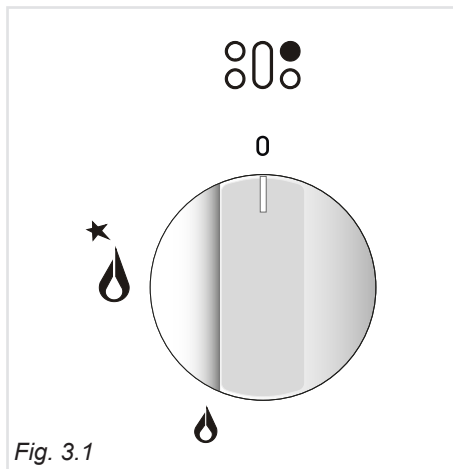
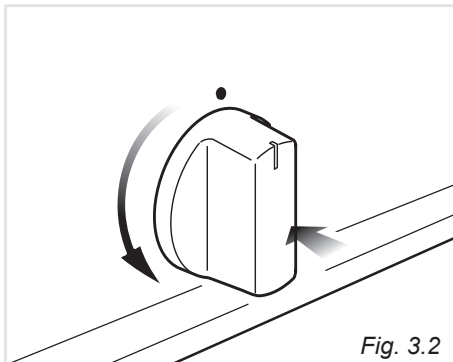

Fig. 3.1
Fig. 3.2
Gas flow to the burners is adjusted by turning the knobs (illustrated in fig. 3.1) which control the safety valves.
1. Press in the corresponding knob and turn counter-clockwise (fig. 3.2) to the full flame position marked by the  symbol (fig. 3.1) and hold the knob in until the flame has been lit.